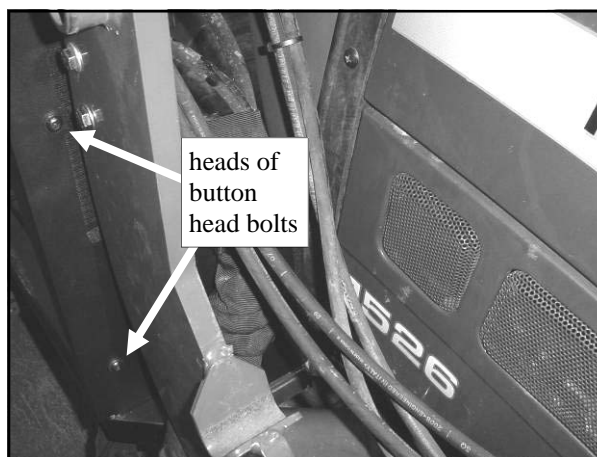

Fig. 5.1 (view from right front side of tractor)
5.1 Per fig. 5.1, install the right front leg oriented so the large cut out fits around the hydraulic hoses. Attach with the following hardware: two 5/16" x 1" long button head bolts, two plastic washers, and four steel washers and two locknuts. Do not tighten the bolts.